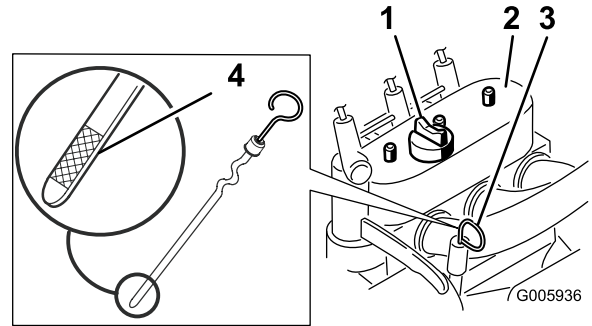

Figure 28
4. Clean the area around the oil dipstick (Figure 28).
5. Pull out the dipstick and wipe the metal end clean (Figure 28).
6. Slide the dipstick fully into the dipstick tube (Figure 28).
8. If the oil level is low, clean the area around the oil-fill cap and remove the cap (Figure 28).
11. Remove the fill cap (Figure 28) and slowly pour approximately 80% of the specified amount of oil in through the valve cover.